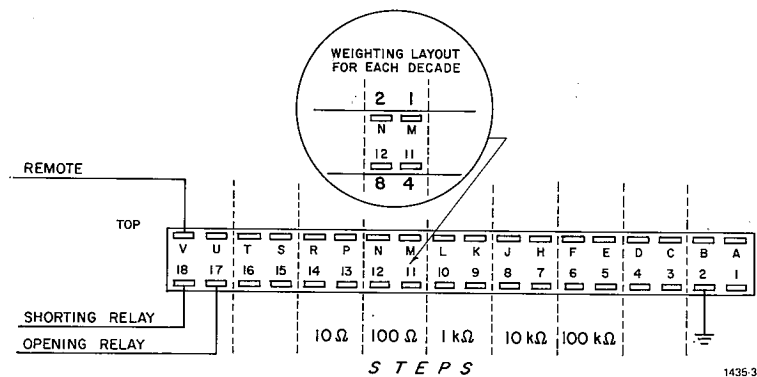

Figure 2-2. Pin connection on J8 to program operation.
2.3 REMOTE PROGRAMMING CONNECTIONS. (Figures 2-2/2-3.)
Input signals for remote programming are applied at the EXTERNALLY PROGRAMMABLE INPUT plug (J8) on the rear panel. The connections are shown in Figure 2-2. The positions of the 1-2-4-8 weightings for all decades are identical and are shown in the diagram.
- Orient the contacts on the connector so that contact 1 engages pin 1 on plug J8 (see Figure 2-2). The etched-board is recessed at that end to accommodate the spacer and ensure correct polarization.